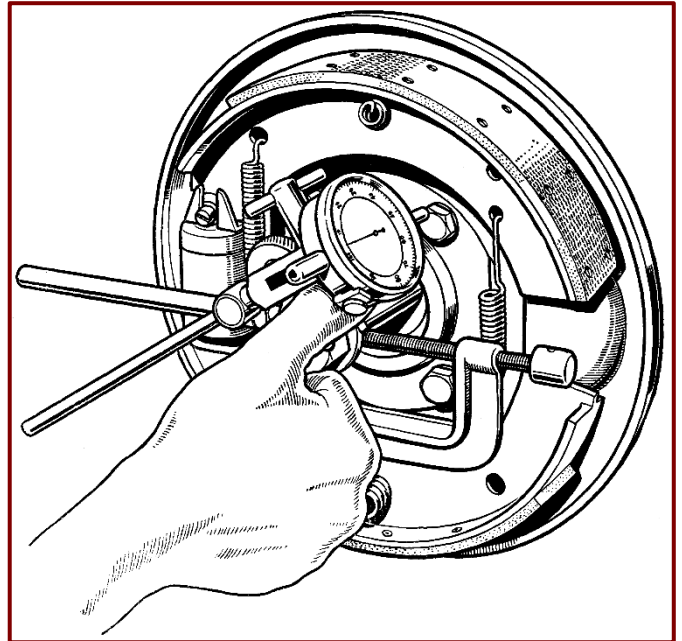

Figure 47. Checking Axle Shaft End Float.
2. Check the end-float of the axle shaft with the dial indicator assembly, Tool No. SE. 101, as shown in *Figure 47*. The correct tolerance for axle shaft end-float is 0.006" to 0.008" (0.152–0.203 mm).
6. Check the axle shaft end-float (*Figure 47*) with a dial indicator assembly, after gently tapping with a rawhide mallet on each axle shaft to ensure that the bearing cups are butting against the brake back plate.